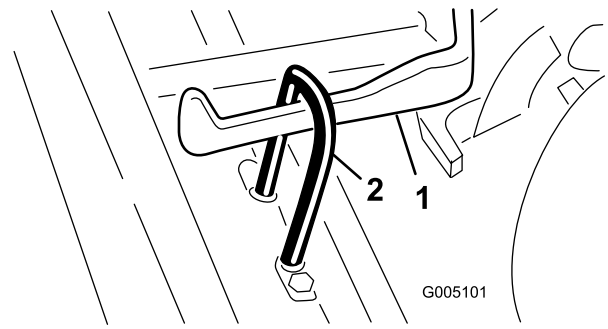

Figure 9
3. Slide the cutting unit under the pull frame while hooking the lift hook onto the lift arm (Figure 9).